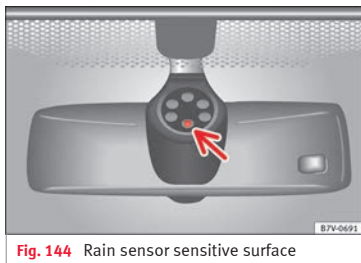

Fig. 144 Rain sensor sensitive surface
Possible causes of faults and mistaken readings on the sensitive surface »» Fig. 144 of the rain sensor include:
- Clean the sensitive surface of the rain sensor regularly and check the blades for damage »» Fig. 144 (arrow).